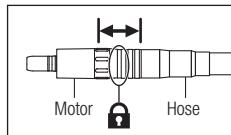

Fig. 3
- 2) Make sure the motor is connected firmly to the hose (Fig. 3).